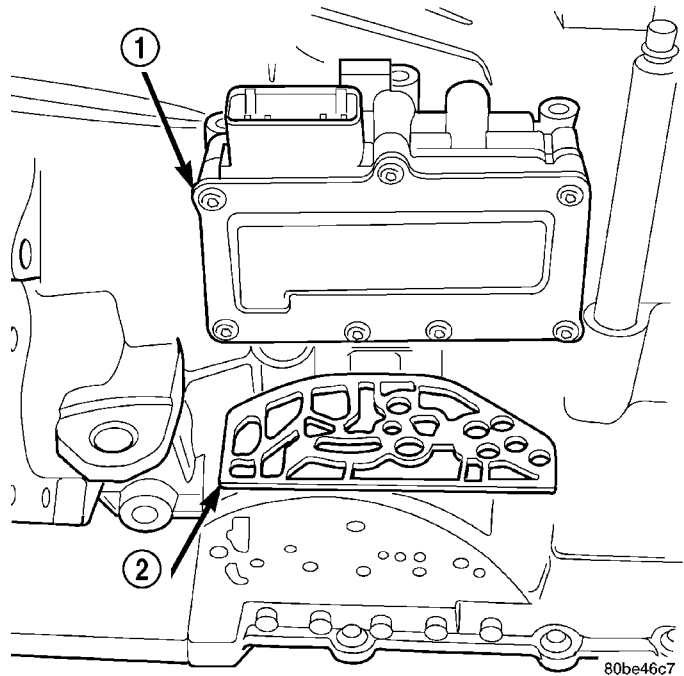

Fig. 308 Solenoid/Pressure Switch Assembly and Gasket
(7) Remove solenoid/pressure switch assembly and gasket (Fig. 308). Use care to prevent gasket material and foreign objects from become lodged in the transaxle case ports.
(1) Install solenoid/pressure switch assembly and new gasket to transaxle (Fig. 308).